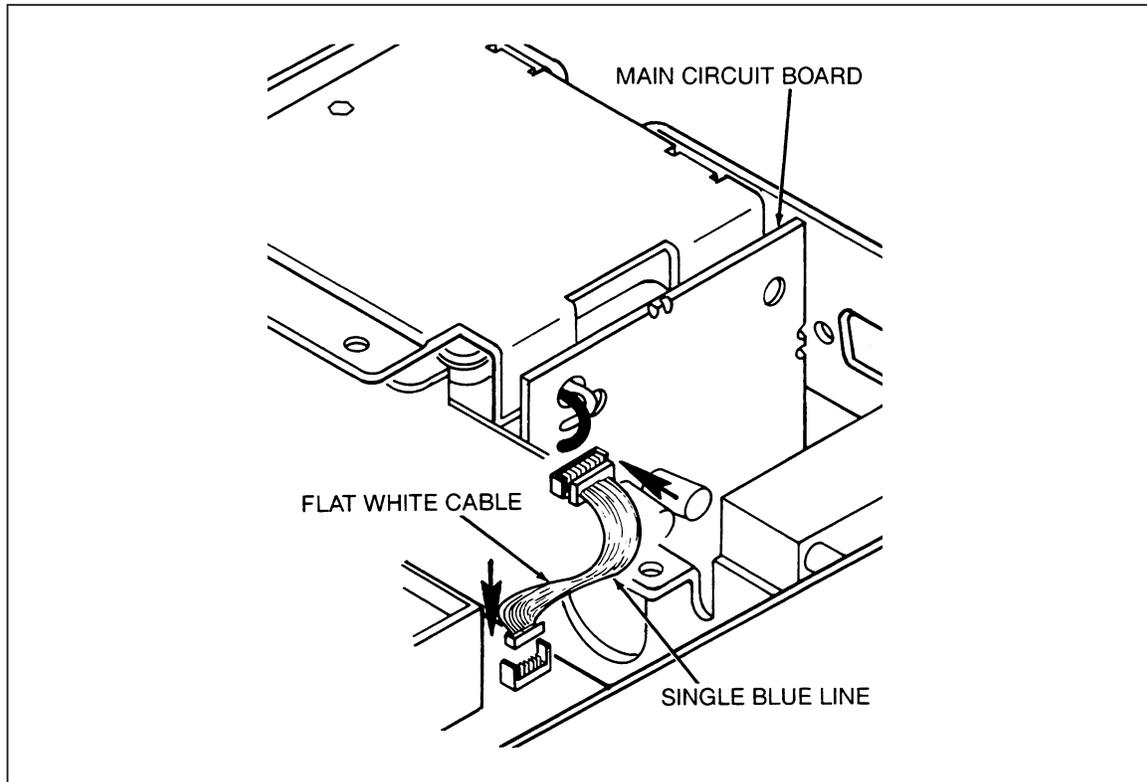

Figure 7-4. Battery Pack Option Connecting Cable
4. Remove the two #6-32 x 1/4" panhead Phillips screws securing the Battery Pack Option (see Figure 7-4).
5. Carefully slide the Battery Pack Option out of the meter (as shown in Figure 7-4). Do not pinch the wires running from the circuit board to the battery terminals.
3. Carefully slide the battery kit into the area reserved for it in the back of the meter (as shown in Figure 7-4). Make sure that both the retaining slots line up and the mounting holes mate. Do not pinch wires running from the circuit assembly to the battery pack terminals.